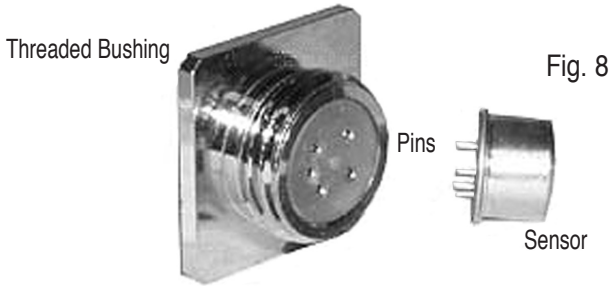

Fig. 8
4. Hold the unit with the front end facing you, and note the sensor connection inside the threaded bushing on the end of the unit. There are five (5) holes corresponding to the five (5) pins on the sensor – three (3) on the left and two (2) on the right (refer to Fig. 8).